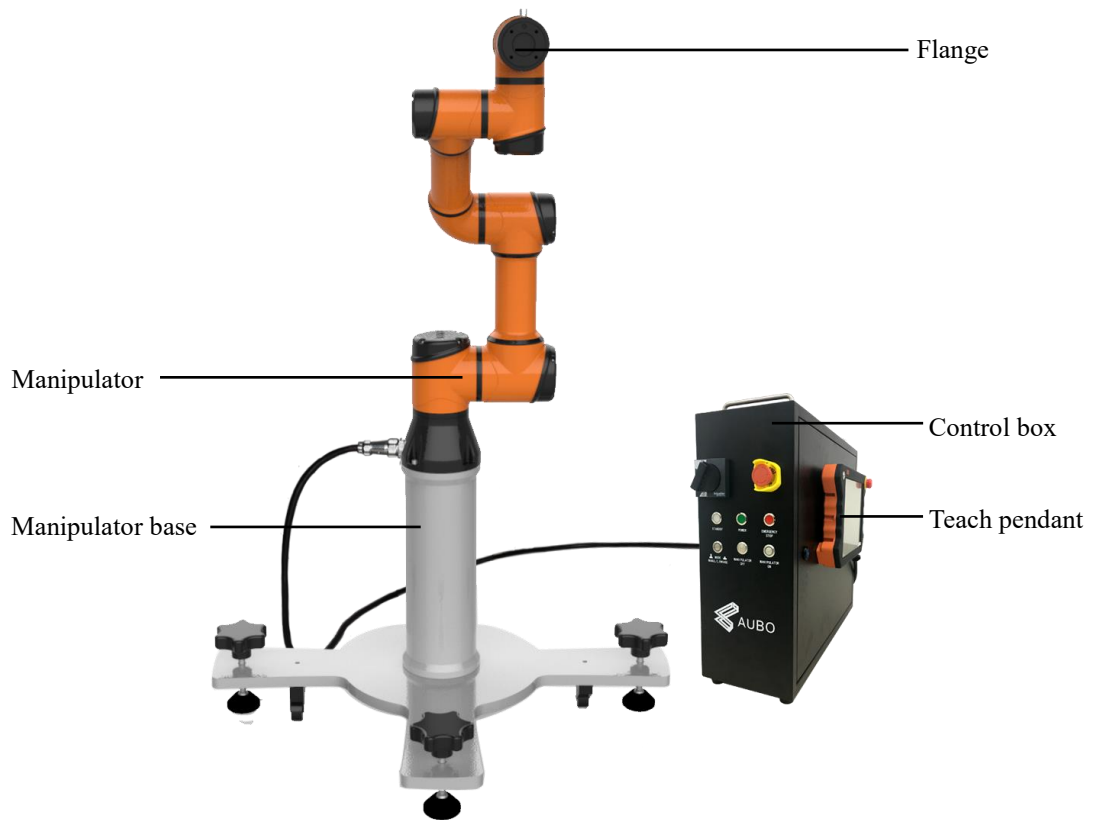
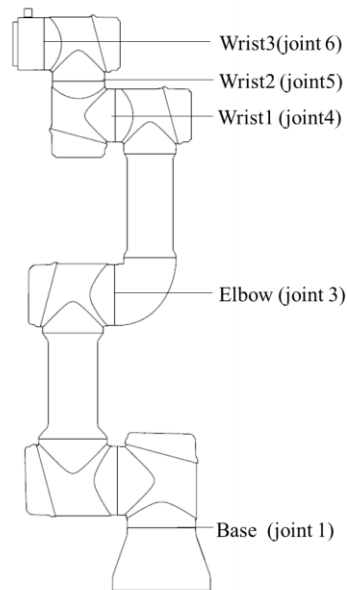

Figure 5-1 AUBO-i3 robot
Figure 5-2 -1 Manipualtor Joints
As shown in figure 5.1, The AUBO-i3 robot system consist of a manipulator, a control box(which can choose a variety of models), a manipulator base and a teach pendant. The manipulator imitates human which has six joints and each joint represents a degree of freedom. As shown in figure5.2, manipulator's joint includes a robot base (A), a shoulder (B), an elbow (C), a wrist1(D) ,a wrist2(E) and a wrist3(F). The manipulator base is used for the robot body and the base connection. End-effector is used to connect manipulator and tool. Aluminium pipe is used to connect shoulder and elbow or elbow and wrist. Through the AUBOPE user interface or hand-guiding, users can control the rotation of every joint and move end-effector to any poses.